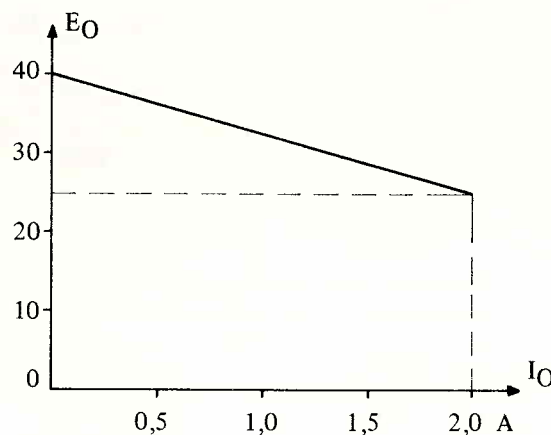

Fig. 5. Remote programming. Max. output voltage as a function of current drain at nominal mains voltage.
**Programming with Fixed Resistor.** When using a fixed resistor having an accuracy better than, say  $\pm 1\%$ , an output voltage of better than  $\pm 2\%$  accuracy is obtained. If, for instance, a voltage of  $12 \text{ V} \pm 2\%$  is desired, a  $12 \text{ k}\Omega \pm 1\%$  metal film resistor should be used. This may be wired directly in a 5-pole DIN plug, between pins 1 and 3. It is a good plan to mark the plug with "12 V" to avoid mistakes later on. The output voltage can be programmed all the way up to approx. 80 V, depending on current drain (Fig. 5).